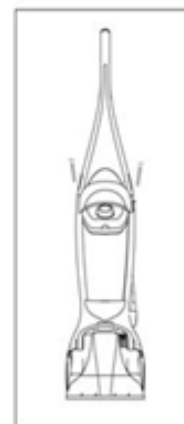

Figure 1
4. Once the handle is in place, secure the handle to the body with the two screws supplied (Fig. 1)